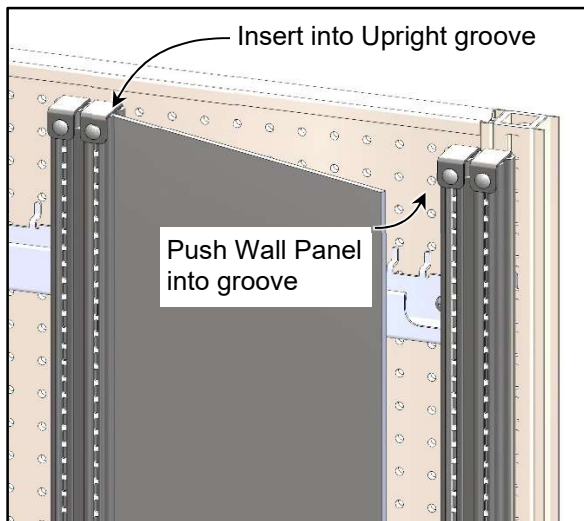

Figure 18
*Note: If space is limited at the far left or far right of a set, the Upright at the end may be moved inward 1". The Upright can be mounted in either of two adjacent mounting slots in the rear of the Upright. This will require 1" to be cut off the width of the Wall Panel (See Figure 18 & 19).*
4. Install the Wall Panels by inserting one side into the groove of the Upright (See Figure 18).
5. Push the opposite side of the Wall Panel into the opposite Upright groove as shown. The Wall Panel may bow slightly before popping in (See Figure 18).